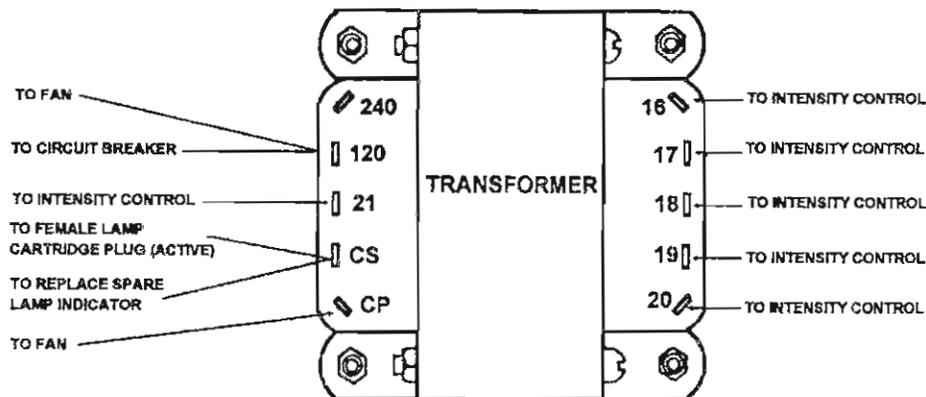

Figure 3-2. Power transformer connections.
c. Wiring connections to transformer #1 and transformer #2 are identical. Figure 3-2 is provided to assist in troubleshooting.